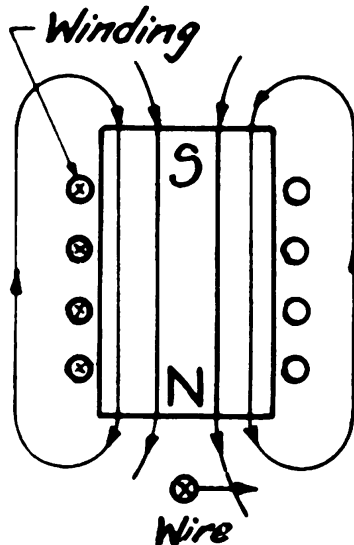

FIGURE 9.—Generator theory, electromagnet.
d. In practice, an electromagnet (fig. 9) is used instead of a permanent magnet. The reason for its use is that a permanent magnet tends to lose its strength over a period of time. Also, the strength of an electromagnet can be controlled by the number of turns of wire wound on it and by the amount of current (amperes) supplied through this wire.